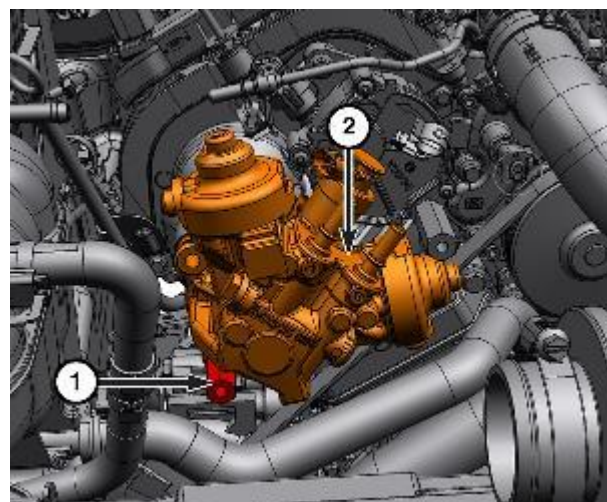

Figure 14 - Lower HPFP Bolt
23. Remove the lower bolt (1) from the HPFP (2) and remove it from the vehicle (Figure 14).
32. Install the HPFP (2) and hand tighten the bolt (1) (Figure 14).